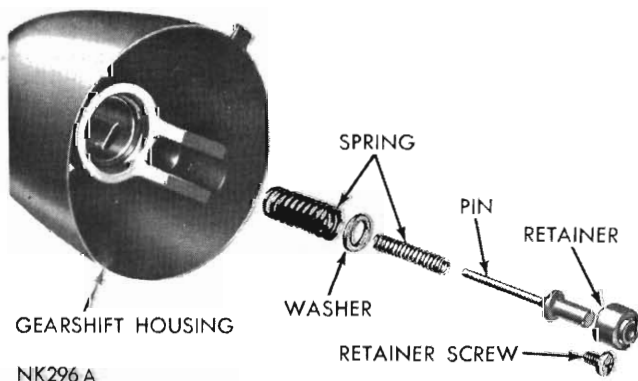

Fig. 15 - Gearshift housing - disassembled
(6) Rotate gearshift housing to align opening with the lock screw (Fig. 14). Remove lock screw with an Allen wrench, then carefully pull gearshift tube out of column jacket. If necessary, remove shift lever crossover spring load parts (Fig. 15).
(7) Remove floor plate assembly from the column jacket.
(1) Lubricate floor plate O-ring with a soap solution or rubber lubricant and slide assembly on the steering column.
(2) Install shift lever crossover spring load parts in gearshift housing (Fig. 15). Be sure all parts move freely in the bore, then install retaining screw.